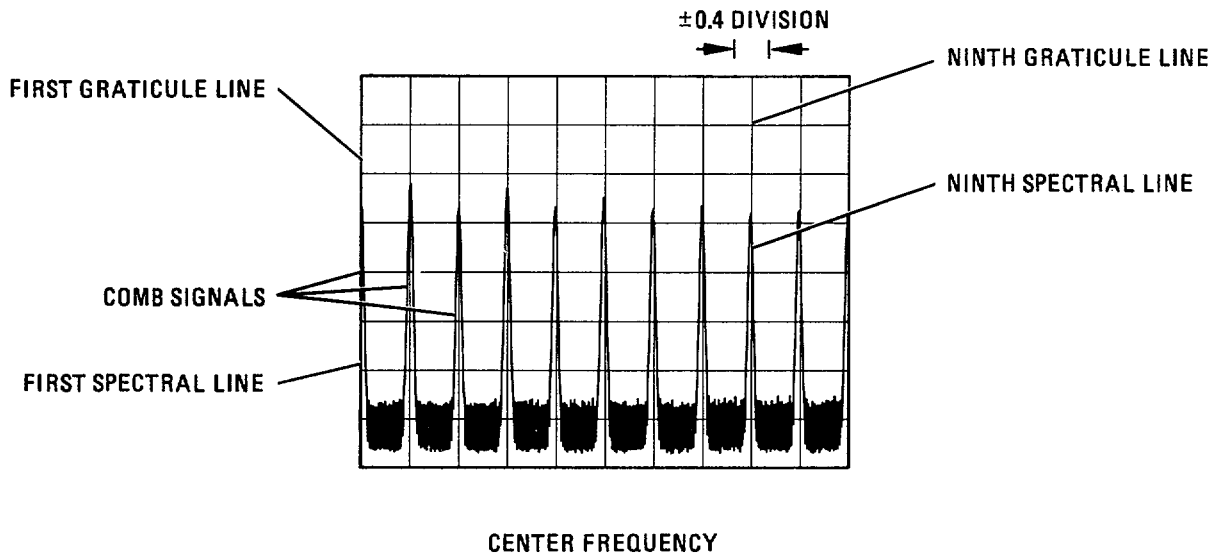

Figure 4-2. Frequency Span Accuracy Measurement for Ninth Spectral Line
3. Adjust spectrum analyzer TUNING control to position one spectral line (from comb generator) at first graticule line (left-hand edge of display). Measure error between ninth spectral line and ninth graticule line as shown in Figure 4-2. Error should be no greater than - 0.4 division.